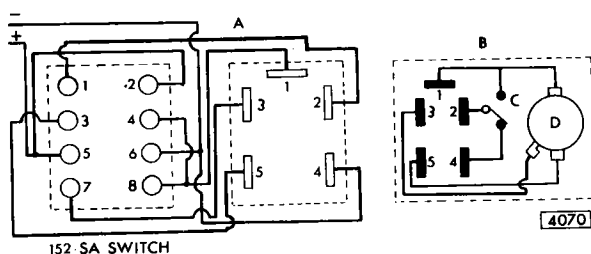

Fig. 93 The windscreen wiper circuit
Note: Since the motor is of permanent magnet design, the direction of rotation of the armature depends on the polarity of the supply to its terminals. If it is necessary to run the motor while it is removed from the vehicle, the negative supply cable should be connected to motor terminal number (1) and the positive supply cable to terminal number (5) for normal speed, or terminal number (3) for high speed (see Fig. 93).
Using a fully charged battery connect motor terminal number (1) (See Fig. 93) to the negative supply and terminal number (5) to positive supply.